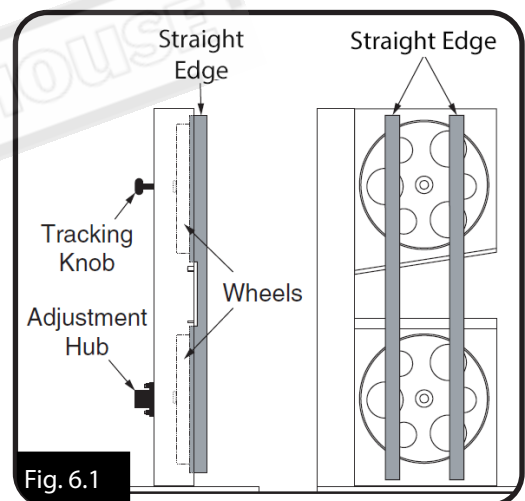

Fig. 6.1
4. Place the straight edges against both wheels in the positions shown in Fig. 6.1